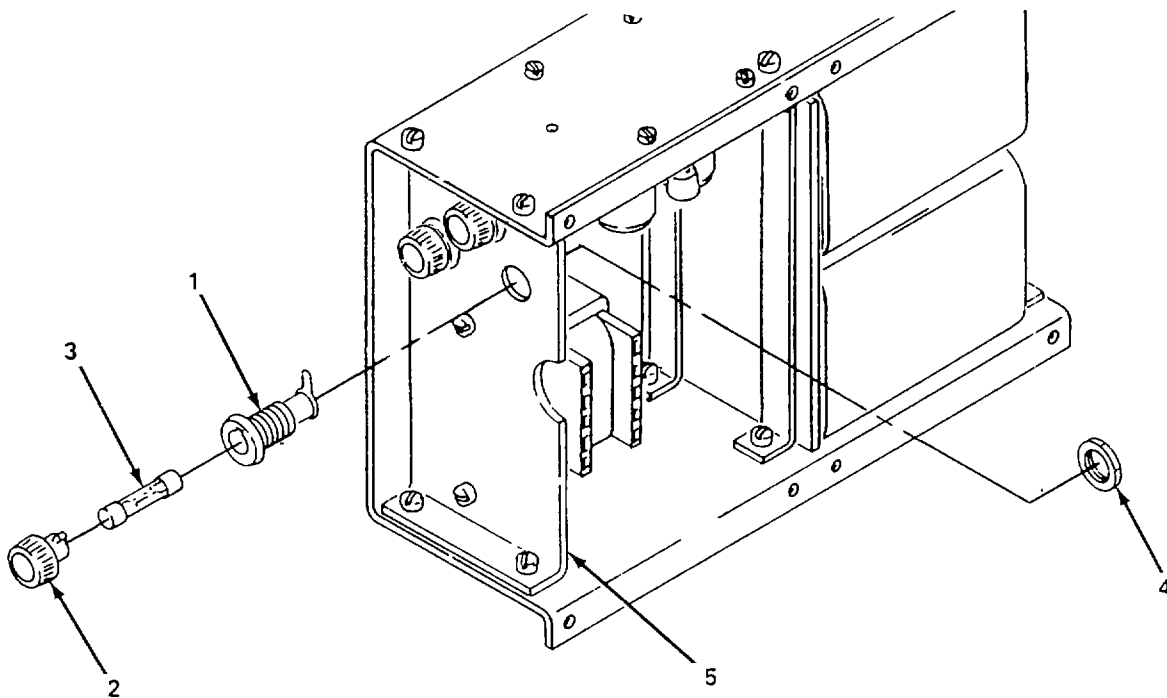

Figure 5-44. Battery Card and Case Fuse Holder, Replace.
(3) *Replace fuse holder.* (figure 5-44)